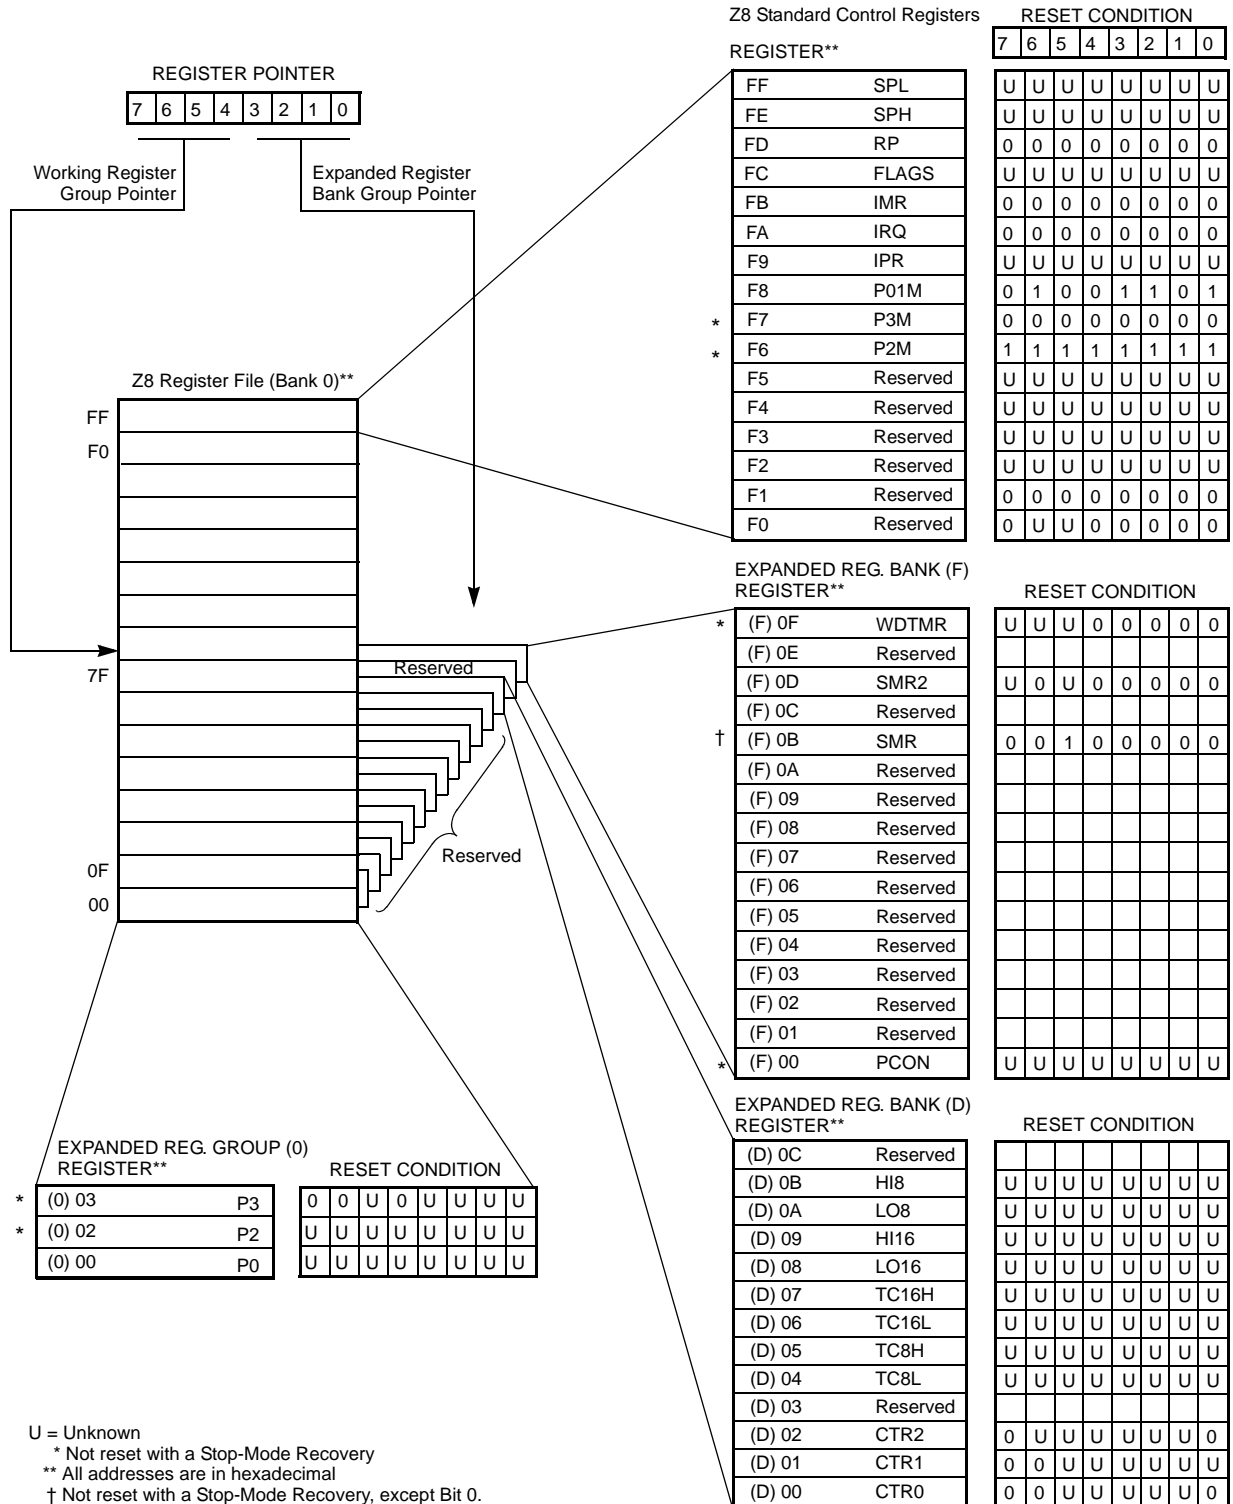
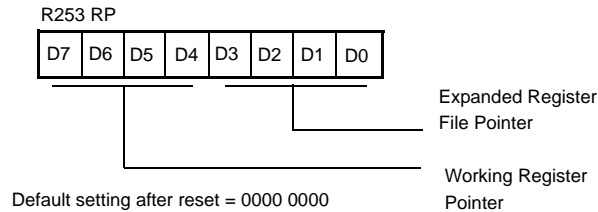

Figure 11. Expanded Register File Architecture
Figure 12. Register Pointer Register
► **Note:** An expanded register bank is also referred to as an expanded register group (see Figure 11).
The upper nibble of the register pointer (Figure 12 on page 22) selects which working register group is accessed of 16 bytes in the register file, out of the possible 256. The lower nibble selects the expanded register file bank and, in the case of the Z86L8X family, banks 0, F, and D are implemented. A 0h in the lower nibble allows the normal register file (bank 0) to be addressed, but any other value from 1h to Fh exchanges the lower 16 registers to an expanded register bank. For example, for the Z86L8X (see Figure 11):